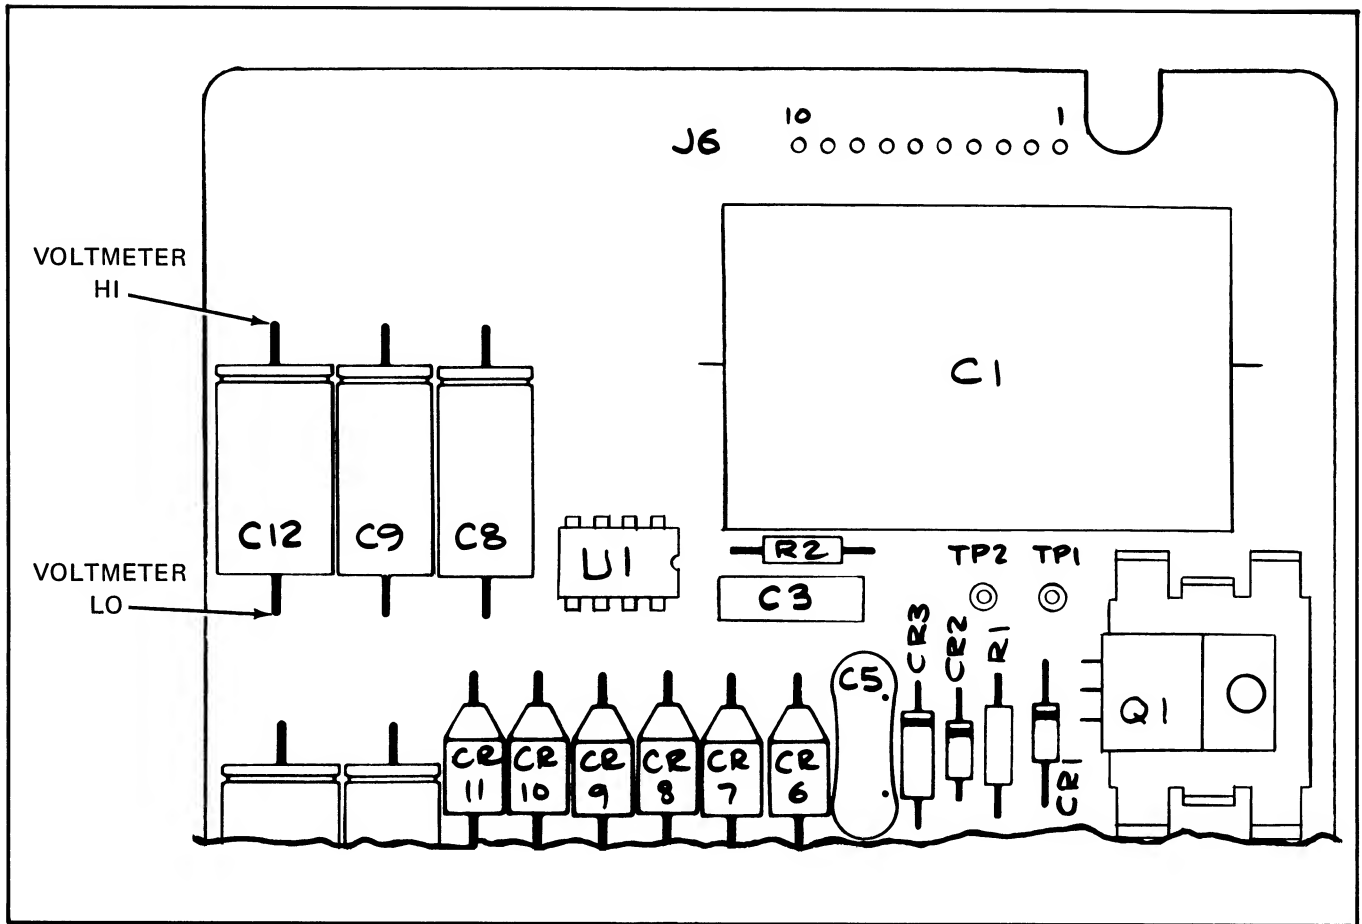

Figure 4-1. TEST EQUIPMENT CONNECTION FOR POWER SUPPLY ADJUSTMENT
- a. Connect the positive input lead of the voltmeter to the junction point of C12, CR10, and CR11 (on the Power Supply PCB) and the negative input lead to the logic common side of C12 (See Figure 4-1).
- c. Check the voltage between TP1 (HI) and TP2 (LO); it should be  $10.5\text{V} \pm 0.1\text{V}$ .